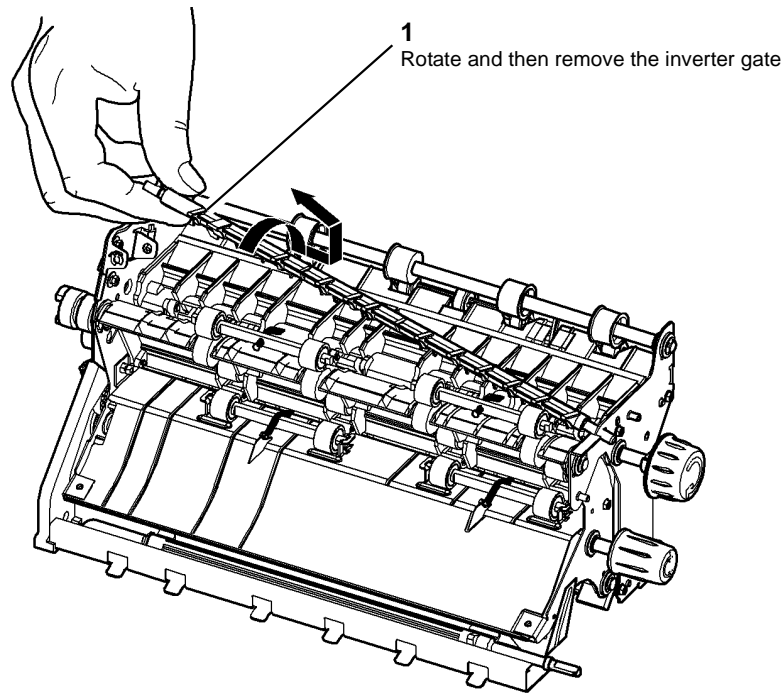

Figure 4 Inverter gate
5. Remove the inverter gate, Figure 4.